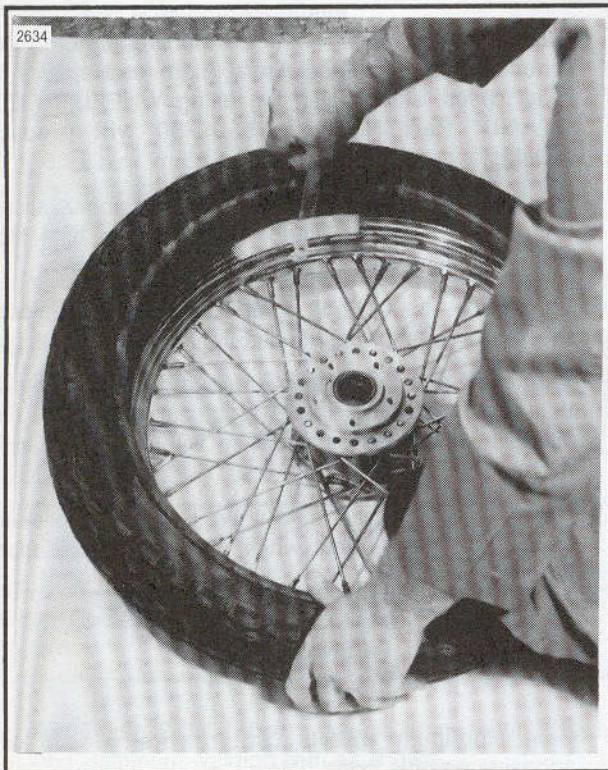

Figure 2-29. Starting Bead on Rim
6. See Figure 2-29. Starting at the valve stem, start the first bead into the rim well. Work the bead on as far as possible by hand. Use the tire tool to pry the remaining bead over the rim flange. If tire has colored dot on sidewall, it is a balance mark and should be located next to valve stem hole.